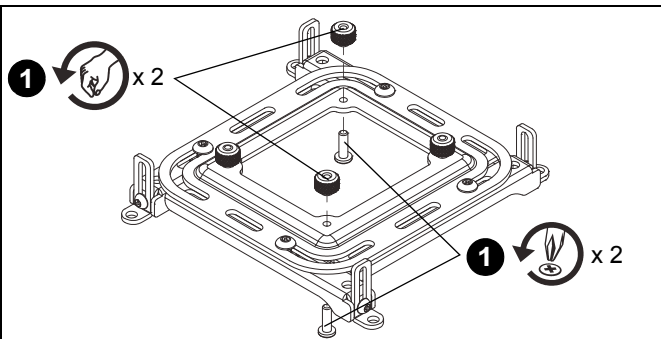

Figure 16
1. Remove two thumb nuts and Phillips screws from opposite corners of universal interface. (See Figure 16)